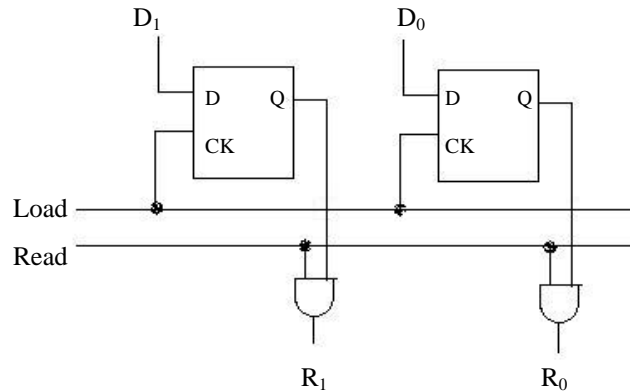
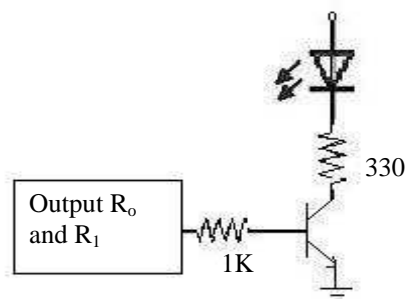

Figure 5: 2-bit data register
Figure 6: Circuit with 2-bit data register
Figure 5 shows a 2-bit **data register** that uses positive edge triggered D flip flops to transfer data from two data lines to the outputs of two AND gates. It does this in two distinct steps. First, the data values D_i are transferred to the outputs Q of the flip flops on the positive edge of the load signal. Then a pulse on the read line presents the data at the register outputs R_i of the AND gates.
- Using the pin-out diagrams, draw a complete, detailed wiring diagram for the circuit shown in Figure 5 using a 7408 AND gate IC and a 7474 positive edge triggered D flip flop. You will need to submit your detailed wiring diagram with your lab summary report.
- Build the circuit shown in Fig. 5 and 6 and verify your results. Connect the transistor switch shown in Fig. 6 to the output R_1 and R_0 of the data register.